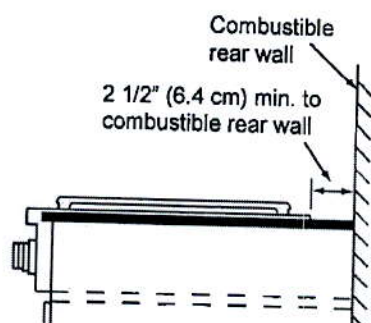

FIGURE 1
- The minimum distance from the back of the rangetop to a combustible rear wall is 2 1/2" (6.4 cm) minimum (Figure 1).